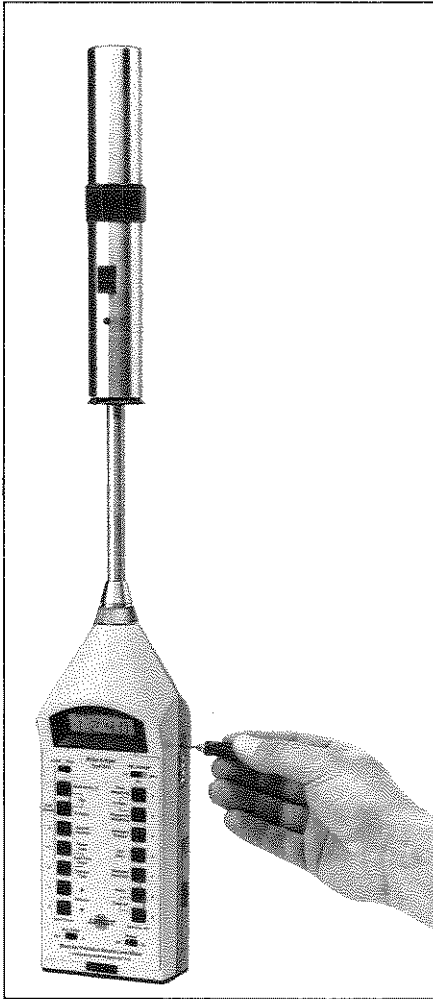

Fig. 2.10. Calibration with Pistonphone Type 4228
7. Use the supplied Screwdriver QA 0001 to adjust the **Sens. Adj.** potentiometer on the side of the sound level meter (see Fig. 2.10) until the display shows a value of **124.0 dB**. This is the nominal level. The actual level depends on the surrounding environmental conditions\*.